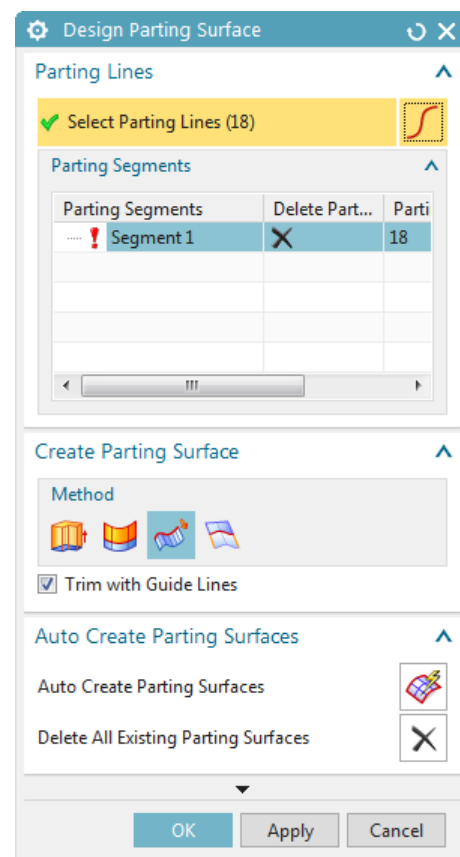

Figure 16-100 The Design Parting Surface dialog box
1. Choose the **Design Parting Surface** tool from the **Parting Tools** gallery of the **Mold Wizard** tab; the **Design Parting Surface** dialog box is displayed, refer to Figure 16-100.